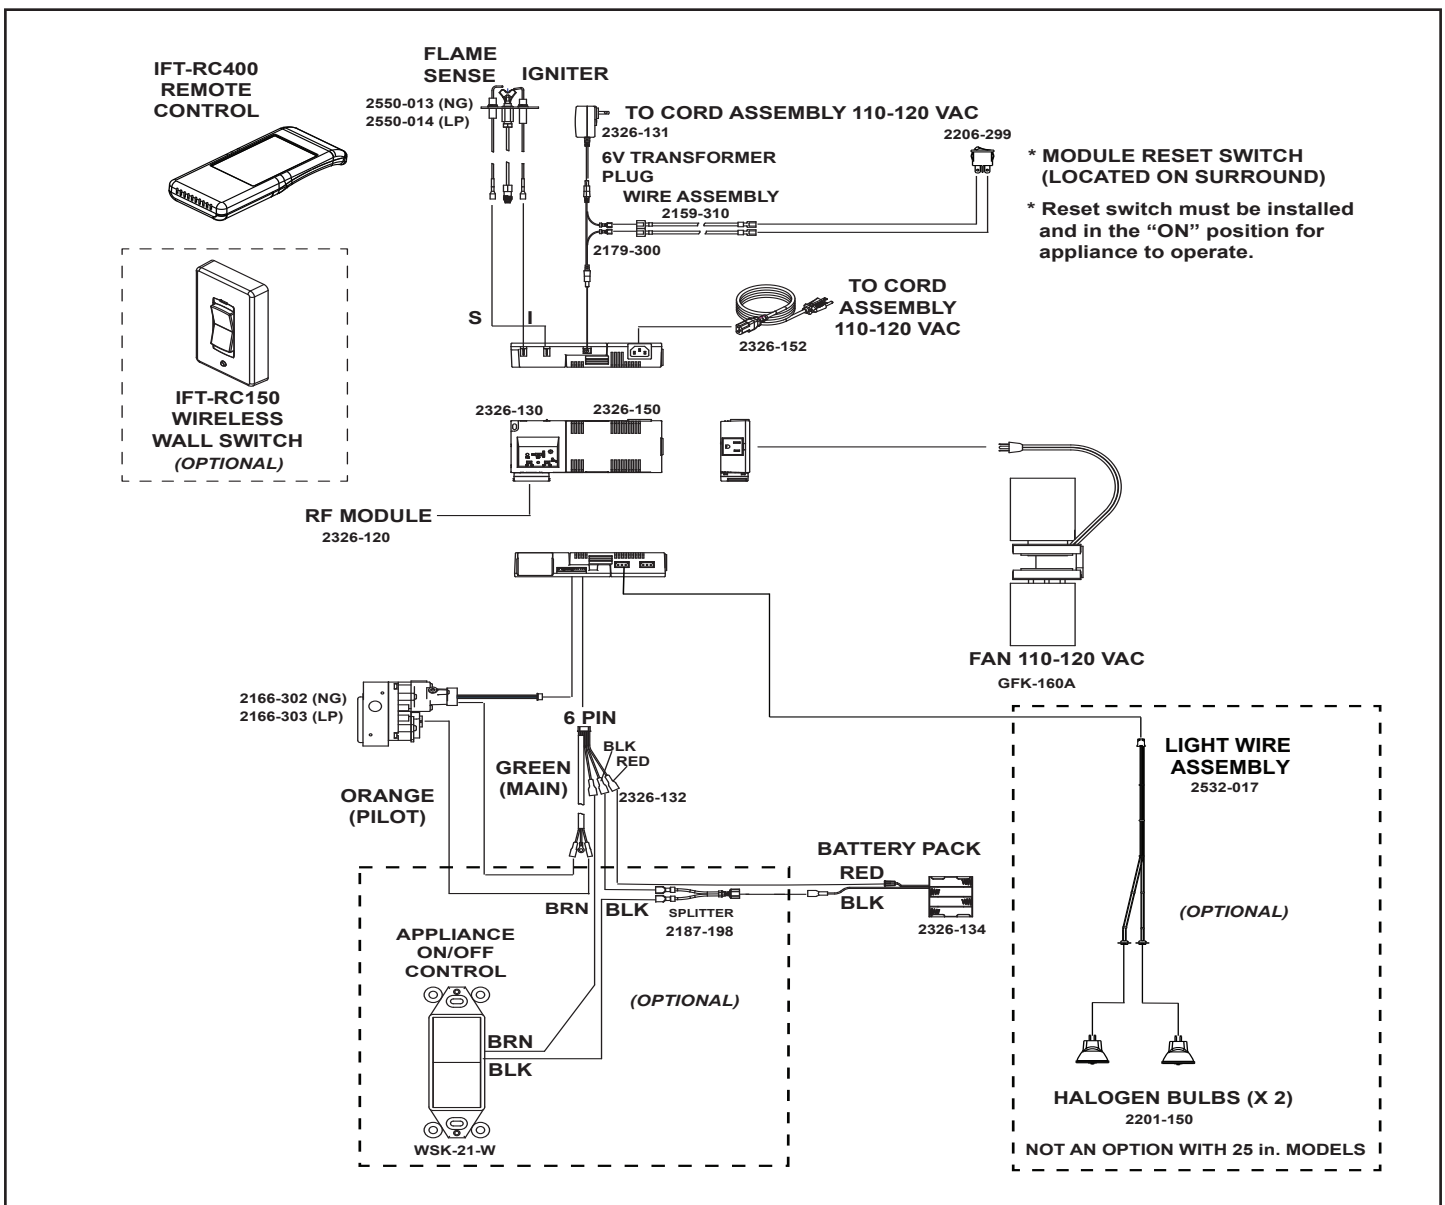

Figure 6.2 IntelliFire™ Touch Wiring Diagram
- Refer to Figure 6.2, IntelliFire™ Touch (IPI) Wiring Diagram.
- Service / replace fan. Figure 6.2 shows a wiring diagram.
- Service / install fan. Figure 6.2 shows a wiring diagram.
- Service / replace halogens. Figure 6.2 shows a wiring diagram.